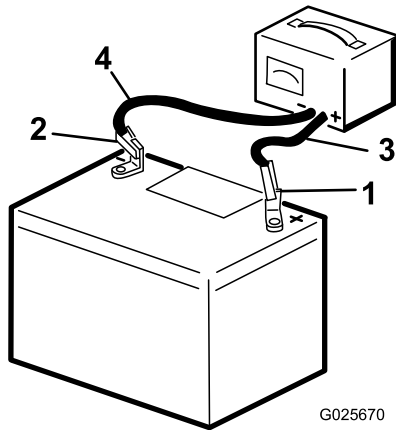

Figure 26
1. Charge the battery for 10 to 15 minutes at 25 to 30 amps or 30 minutes at 4 to 6 amps (Figure 26).
2. When the battery is fully charged, unplug the charger from the electrical outlet, then disconnect the charger leads from the battery posts (Figure 26).